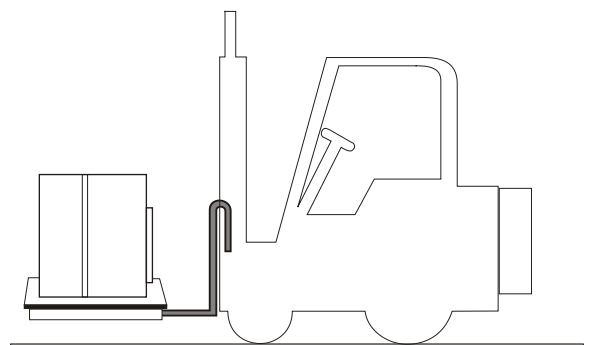

Fig. 3
**The apparatus must not be handled by putting lifting devices directly under the apparatus itself. Should it be necessary to use this technique, put the circuit breaker onto a pallet or a sturdy supporting surface (see fig. 3).**